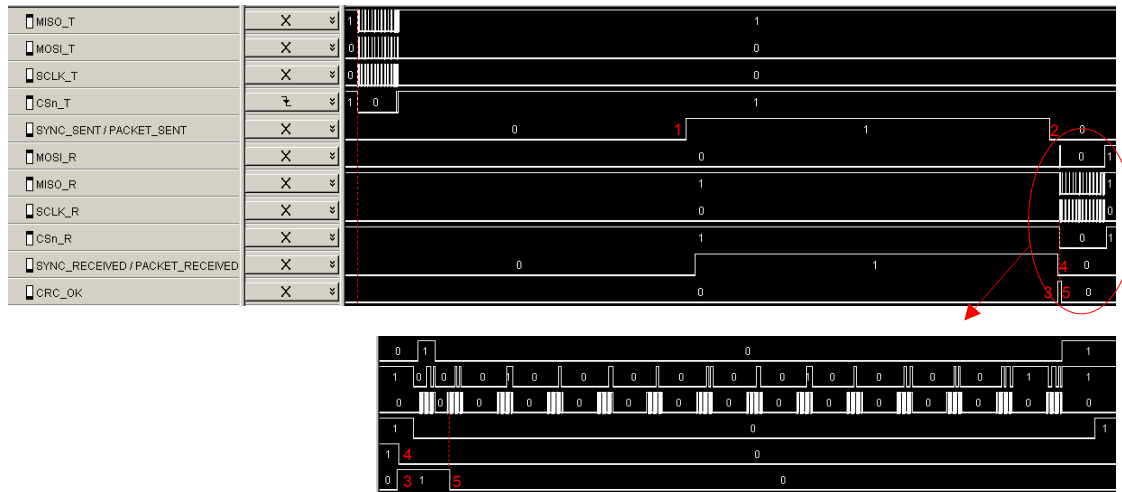

Figure 12. IOCFGx = 0x07
This signal is asserted when a packet has been received with CRC OK and is de-asserted when the first byte is read from the RX FIFO. The signal is not valid for CC1150 and CC2550. Note that on the CC2500, this signal is only valid when PKTCTRL0.CC2400_EN = 1. Figure 12 shows an 11 bytes long packet being transmitted. (1) shows sync sent and (2) shows packet sent. The GDOx signal is asserted (3) when the packet has been received (4) and is de-asserted after the first byte is read from the RX FIFO (5).